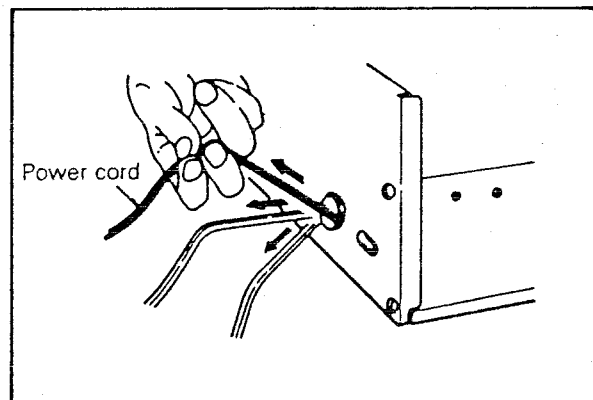

Fig. 2
8. When a power cord has been replaced, check that 10-15Kg of force in any direction will not loosen it (Fig. 2)